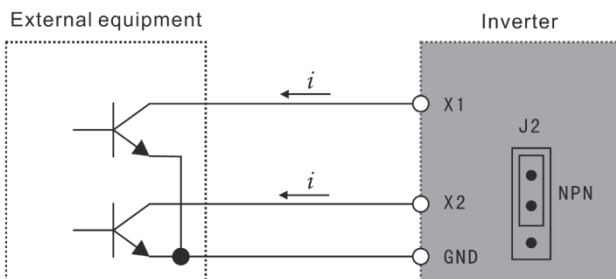

Figure 3-1 NPN Type Wiring Mode
- (1) When NPN type wiring mode is adopted for external equipment, leakage type logic is induced and the current flows out from input terminal (sourcing current) as shown in Figure 3-1, at the same time parameter P067=0 is required.